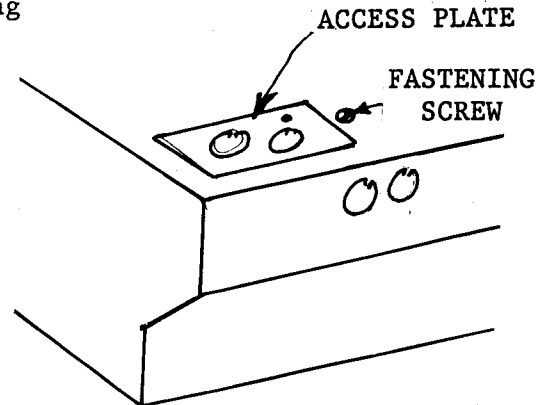

FIG. 6
1. Remove access plate and attach flexible conduit containing supply leads and ground wire (Fig. 6)